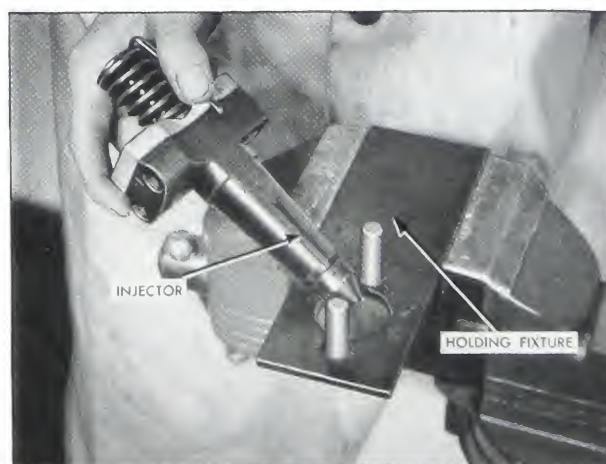

Fig. 6-7. Injector holding fixture
4. While servicing the injector, never clamp the body in a vise. Clamping in a vise usually causes distortion of the body and ultimately a sticking plunger. Use a fixture similar to ST-111 shown in Fig. 6-7.